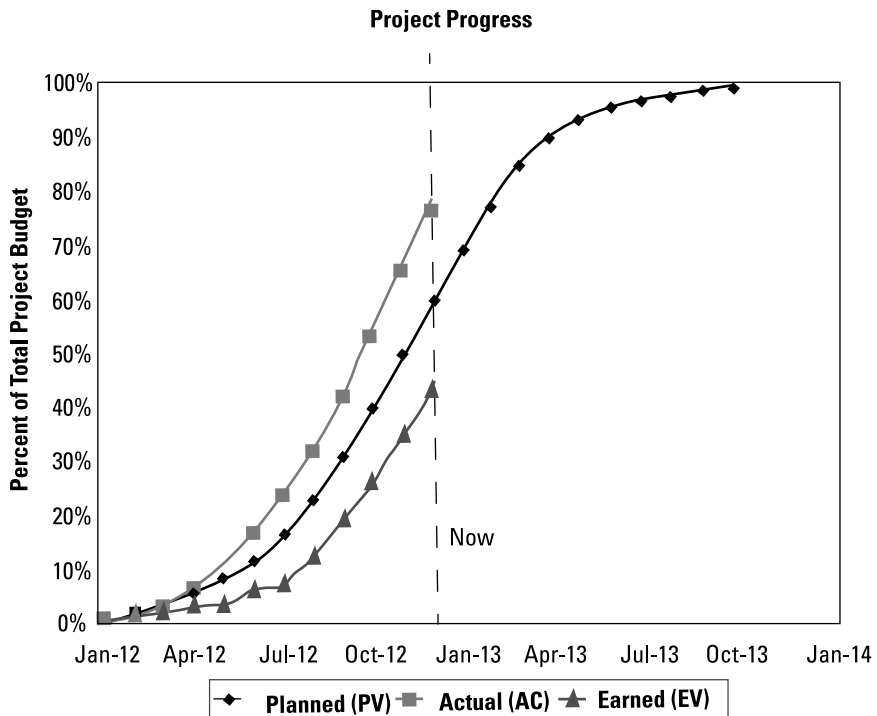

FIGURE 21-2:
It is common to graph the three values, planned value, actual cost, and earned value for a project over time. However, they are all typically divided by the budgeted cost for the entire project to form percentages as shown in Figure 21-2. For example, if you have an actual cost (AC) of \$2.5 million in December, you would divide it by the total budgeted cost for the project (at the planned time of completion) of \$3.3 million to get 76 percent. This is what you would graph on the project progress chart in Figure 21-2.
Looking at the chart in Figure 21-2, you can deduce three things rather quickly:
Finally, the S-shapes of the curves in Figure 21-2 are typical. In fact, any shape other than an at least approximately S-shaped curve is a hint that there may be something wrong with either your planning or your calculations.
There are a number of ways to accomplish this kind of foresight. All of them involve visual charts that reveal trends. The earned value progress chart is the most popular option; it is shown in Figure 21-2. Other options are the project run chart and the buffer penetration chart.